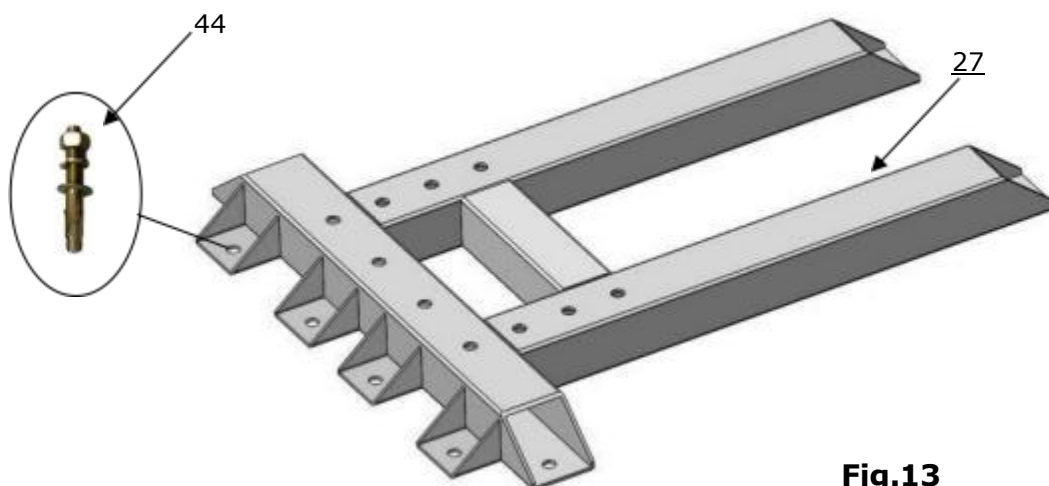

Fig.13
C. Lay the base flat to the ground, confirm installation place according to the ground state. (See Fig.13)